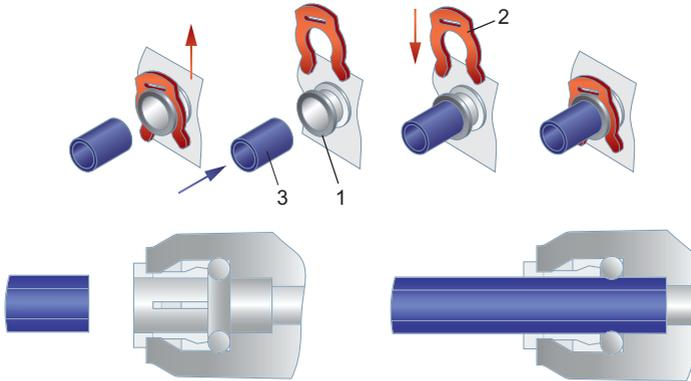
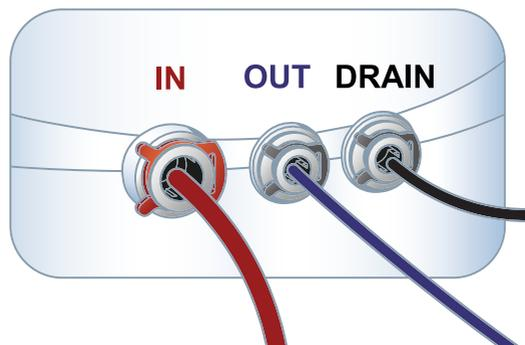

Figure 6. Connection of JG tubes
Figure 11. Incoming tubes connection
2. Remove the clip from the JG tube 3/8" socket of the water filter, and then connect this tube end to it (see the connection of the JG tubes on figures 6 and 7).
Step 1. Connect the incoming tubes according to the diagram below (figure 11). The tube connection scheme is illustrated on figure 6